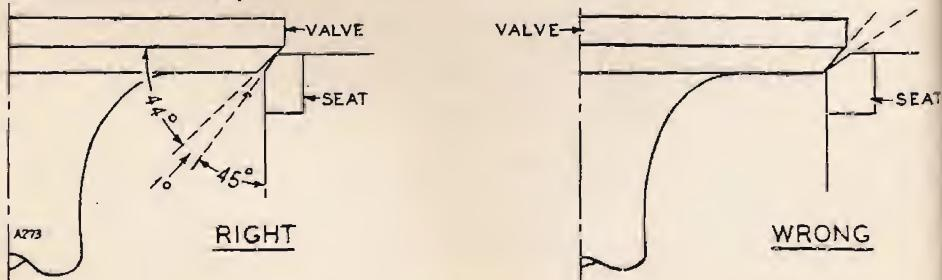

Fig. 21 Valve Seating
**VALVES.** - The exhaust valves and seats are of Stellite material, which is extremely hard and heat resistant. "Lap" grinding such valves is seldom successful. Dress the seats (both intake and exhaust) to an accurate 45 degree angle. Dress the valve faces to a 44 degree angle. This will provide a very narrow band of contact between valve face and seat, Fig. 21. This results in better valve seating and lessens the chance of deposit built-up on valve seats and faces. Be sure to clean away all traces of abrasive, then oil the valves and guides lightly before reassembly.